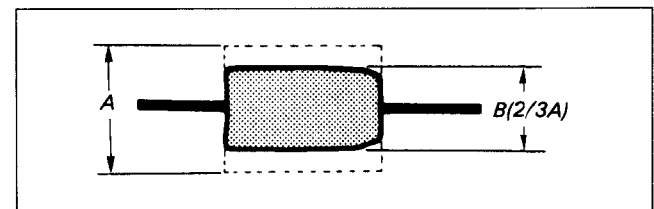

Fig. 7-76.
- 4) Set the SEL switch of the track shift & monitor jig to ON, then turn the track shift knob until the RF waveform amplitude is 2/3 (See Fig. 7-76.)